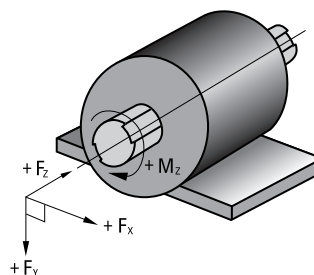

Figure 54. Axis and Sense Nomenclature for Torque Sensors
**Figure 54** shows the axis and sense nomenclature for our torque sensors. A (+) sign indicates torque in a direction which produces a (+) signal voltage and generally defines a clockwise torque.